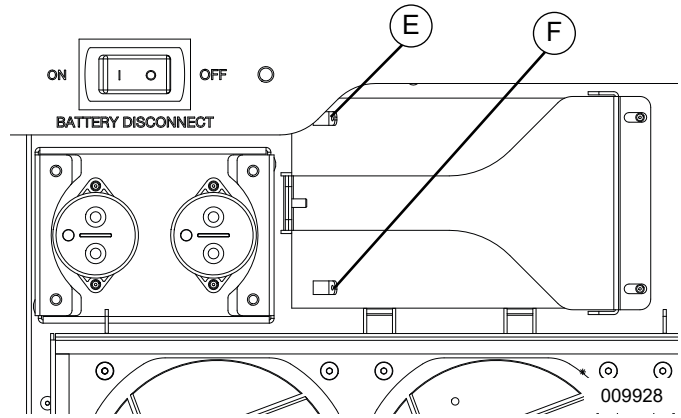

Figure 4-8. Blackstart Battery Connections
1. See **Figure 4-8**. Connect blackstart battery lead to battery terminal (E).